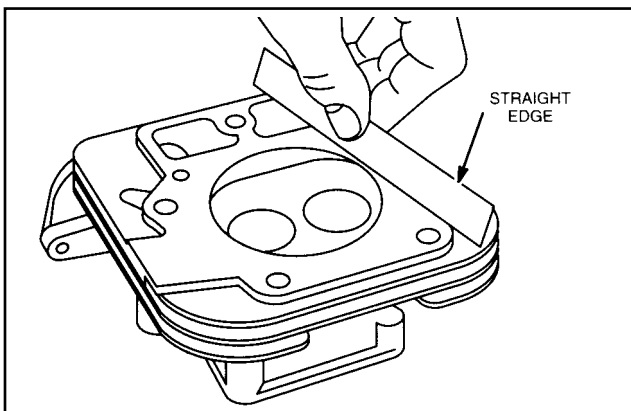

Fig. 12 - Check Cylinder Head For Distortion
1. Check cylinder head, Fig. 12. Be sure all gasket material is removed from surfaces before checking. Use a gasket scraper if necessary.